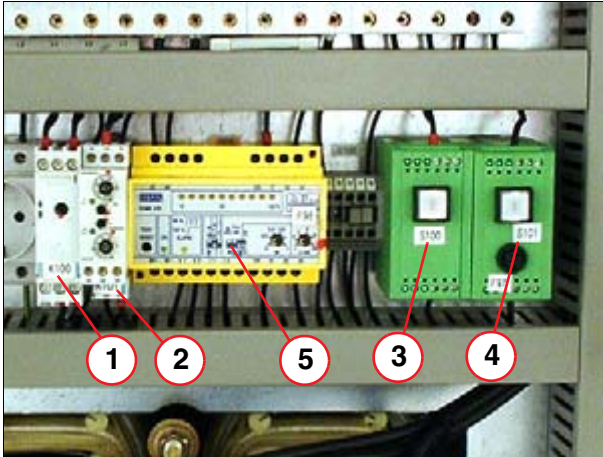

Fig. 8: Other components
3. If the LED"s status is o.k., press the S100 test key (3/ Fig. 8 / p. 16) and hold for at least 2 seconds.
6. **Leakage Current Test** // If the LED"s status is o.k., press the S101 test key (4/ Fig. 8 / p. 16) and hold for at least 2 seconds.